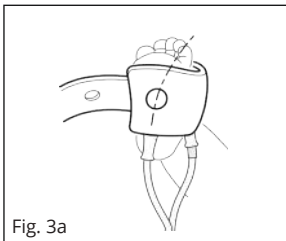

Fig. 3a
D. Applying sensor to patient (see **Figs. 3a–5d**)